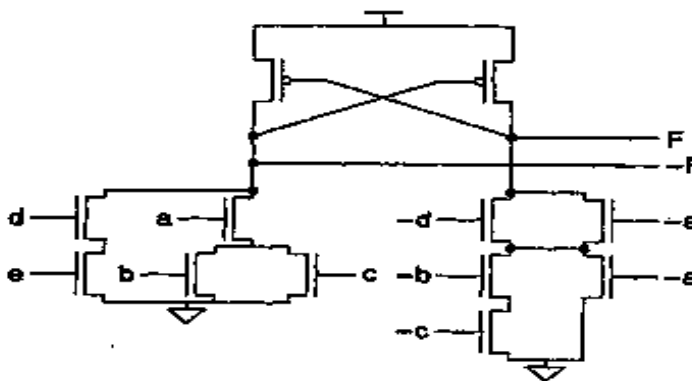

Fig. 3.1
- 3 a) Interpret the output of the following circuit in *Fig. 3.1* and write the output expression and its stick diagram.